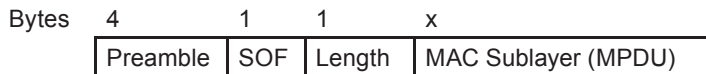

Figure 5.2 – 802.15.4 PHY Layer
- ❑ With these specifications, concatenate Figures 5.2, 5.3, 5.4 and 5.5 into a complete frame (assume the PanId is 0x8000, DstAddr16 is 0x0002, SrcAddr is 0x0001 and the data is 0x1234):